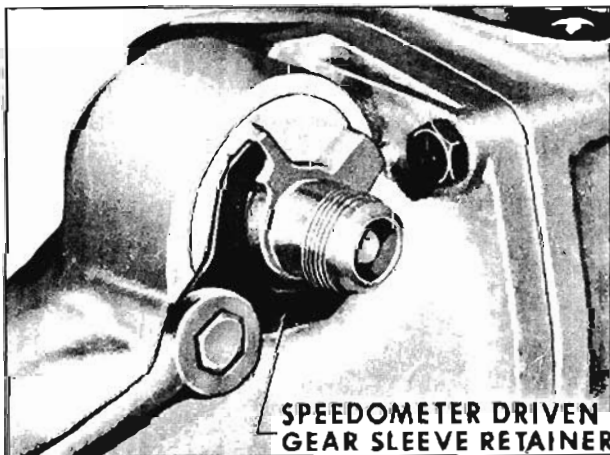

Fig. 6-456 Installing Speedometer Driven Gear Retainer
2. Install speedometer driven gear sleeve retainer. Torque bolt 8 to 12 ft. lbs. (Fig. 6-456)